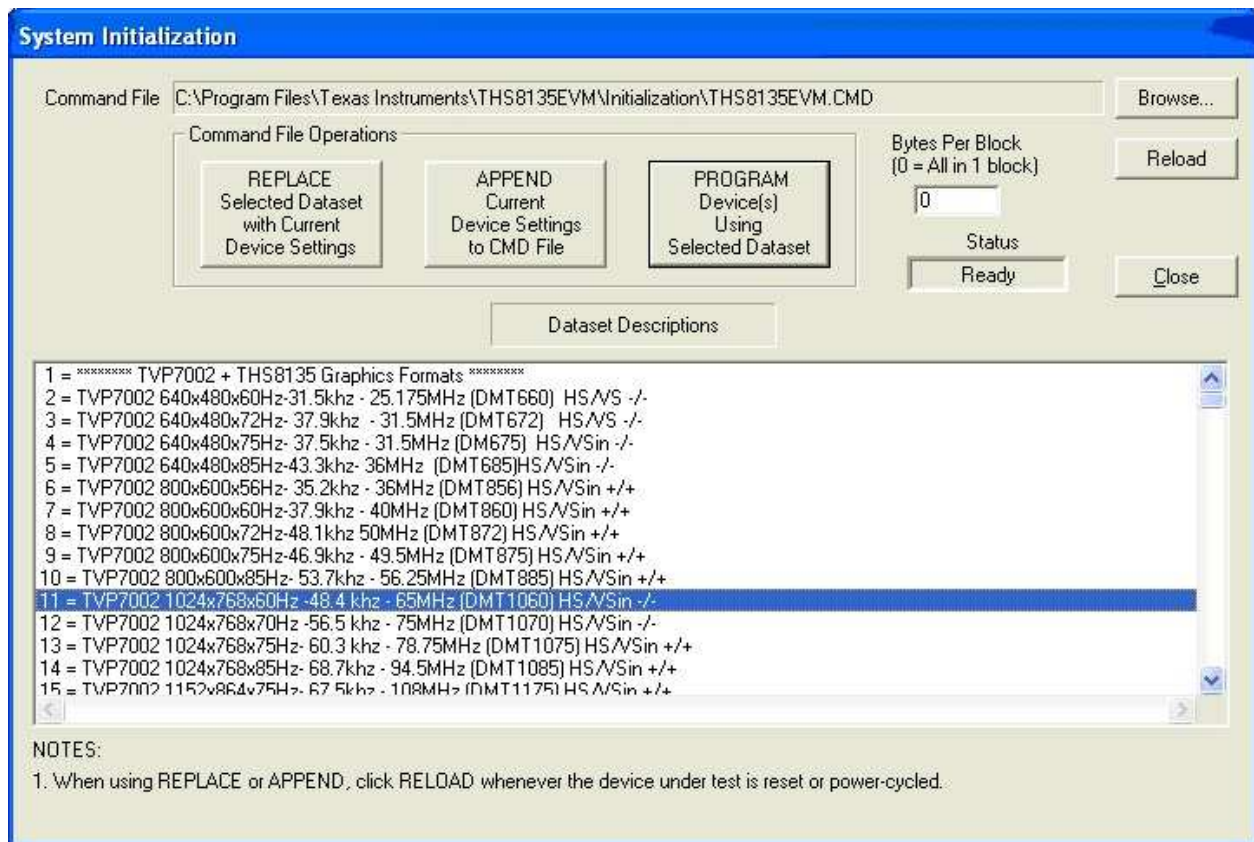

Figure 11. VCC System Initialization
4. Load the provided Initialize.CMD file into VCC by clicking on Tools -> System Initialization. The System Initialization window opens (see Figure 11). The default directory is C:\Program Files\Texas Instruments\THS8135EVM\Initialization.